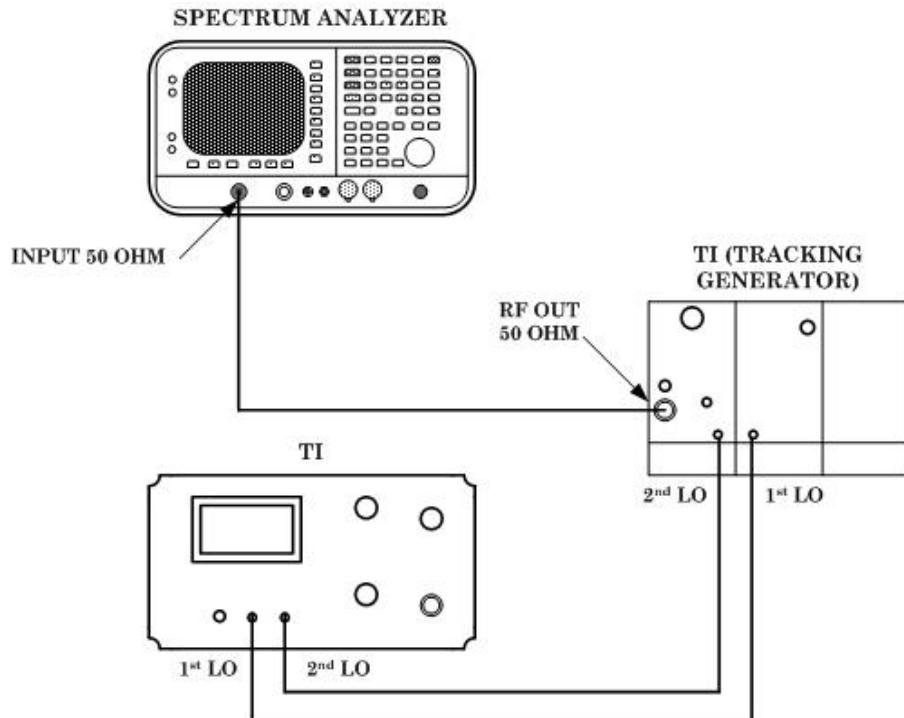

Figure 12. Spurious signals setup.
- (1) Connect equipment as shown in figure 12 below.